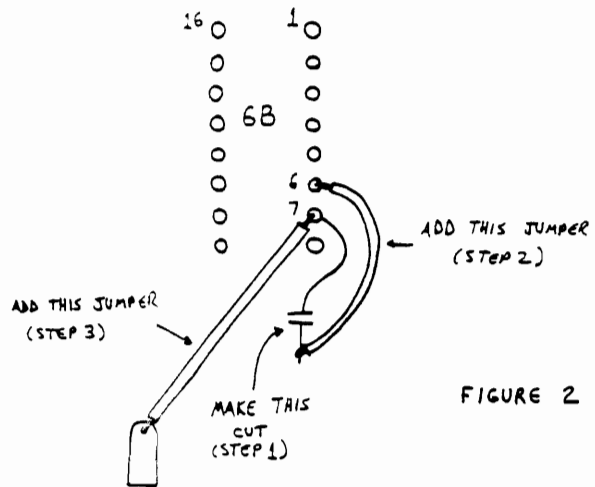

FIGURE 2
1. Cut the trace leading to pin 7 of the chip at location 6B as shown in figure 2.
2. Jumper pin 6 of the chip at 6B to the trace which used to go to pin 7, as shown in figure 2.